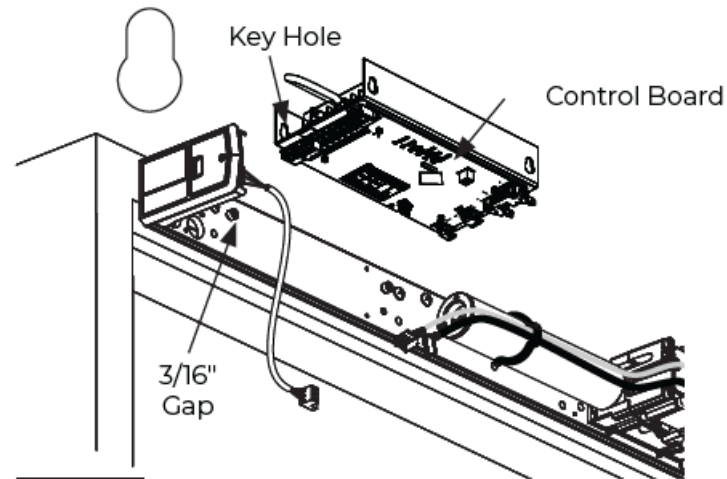

Figure 10
1. Insert two (2) screws. Leave a 3/16" gap between the head of the screw and the backplate. (Figure 10)
2. Slide power supply keyholes over screws allowing narrow slots of keyholes to rest on screws. (Figure 10)
installation. (Figure 10)